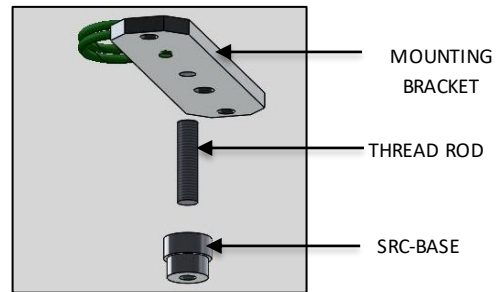

FIG. 12 – THREAD ROD INSTALLATION
- Screw the THREAD ROD into the top of the SRC-BASE until fully seated. Then assemble the THREADED ROD/ SRC-BASE into the center hole of the MOUNTING BRACKET until SRC-BASE is fully seated against MOUNTING BRACKET as shown below in FIG. 12.